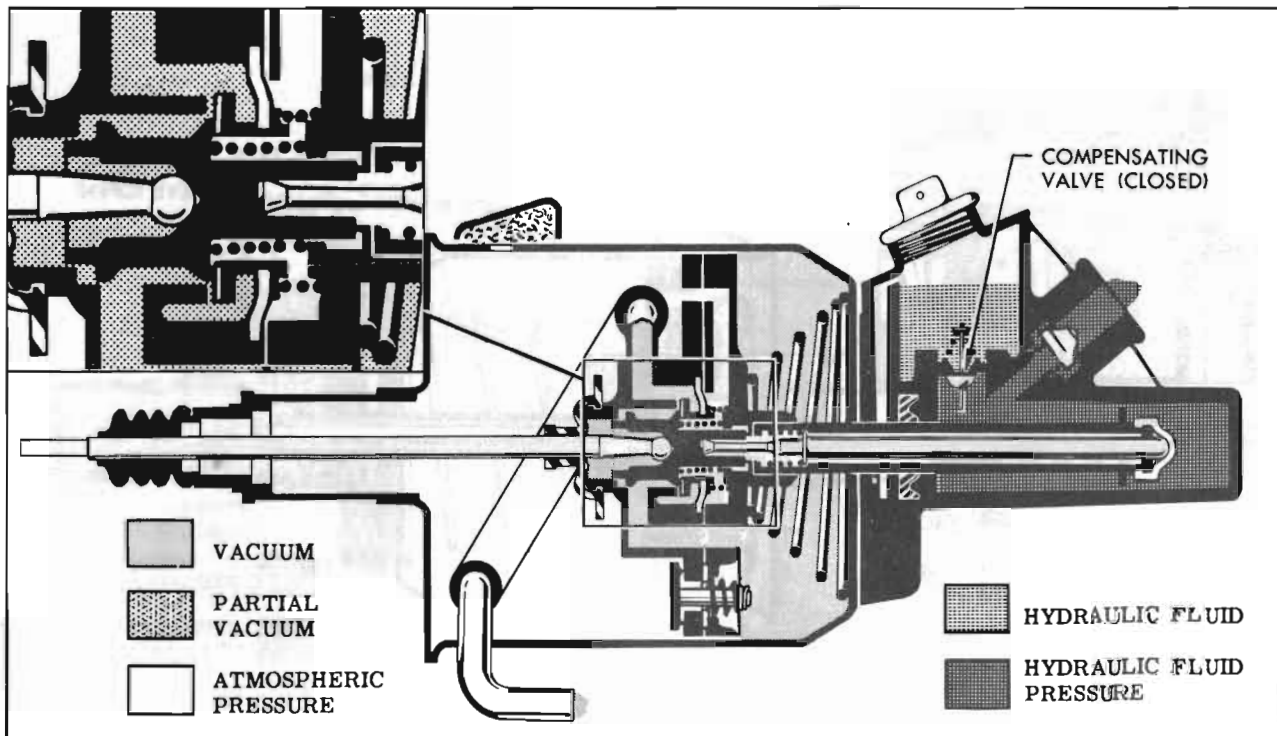

Figure 9-31—Applying
(2) *Applying.* See figure 9-31. As the brake pedal is depressed, the valve operating rod moves the valve plunger and closes the atmos-
(3) *Reaction Pressure.* See figure 9-31. Any pressure in the hydraulic cylinder causes the membrane at the end of the hydraulic plunger to transmit a force to the reaction rod. This force acts back through the reaction rod and counter reaction spring against the valve plunger and valve operating rod. Since the reaction force is in proportion to the pressure developed within the hydraulic cylinder and the wheel cylinders, it gives the driver a sense of "feel" of the amount of braking.
(6) *Manual Applying.* If it should be necessary to use the brakes at a time when the engine is not running and there is no reserve vacuum remaining in the system, the brakes can still be applied manually. In the case of "no power" the force supplied by the driver against the end of the valve operating rod will be transmitted directly to the hydraulic plunger and to the wheel cylinders. See figure 9-31. However, for a given amount of vehicle braking, more foot pressure must be supplied by the driver.